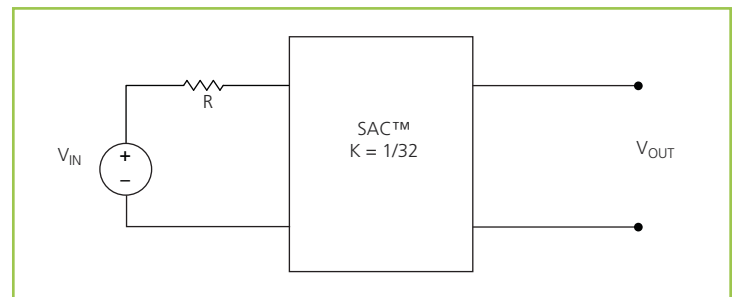

Figure 18 – K = 1/32 Sine Amplitude Converter with series input resistor
The use of DC voltage transformation provides additional interesting attributes. Assuming that ROUT = 0 Ω and IQ = 0 A, Eq. (3) now becomes Eq. (1) and is essentially load independent, resistor R is now placed in series with VIN as shown in Figure 18.
Assuming that  $R = 1 \Omega$ , the effective R as seen from the secondary side is  $1 \text{ m}\Omega$ , with  $K = 1/32$  as shown in Figure 18.